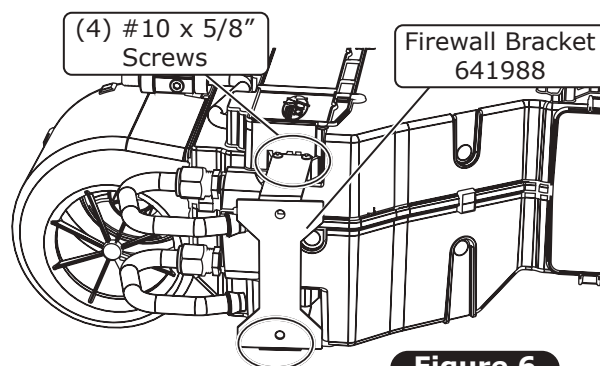

Figure 6
5. With the supplied firewall bracket and (4) #10 x 5/8" screws install the bracket onto the evaporator case and secure with screws (See Figure 6, below).